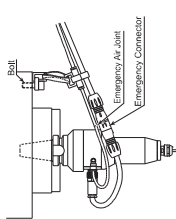

Fig. 22
- ⑥ Future the Emergency Connector in the machine. Route the motor cord and air hose and hold them securely with enough slack to allow for quill travel. The Emergency Connector should be positioned so that the air hose can pass freely through the air hose. If the motor cord and air hose are not held properly, the emergency connectors may not separate properly in an emergency (Fig. 22).